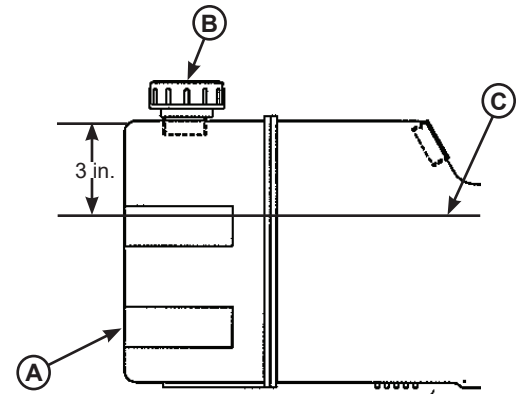

Figure 24
- Check reservoir fluid level (C, see Figure 24):
3. Remove breather cap (B).
4. Measure fluid level. The fluid level should be approximately 3 in. (76.5 mm) from top of reservoir (C) with platform raised on the maintenance prop.